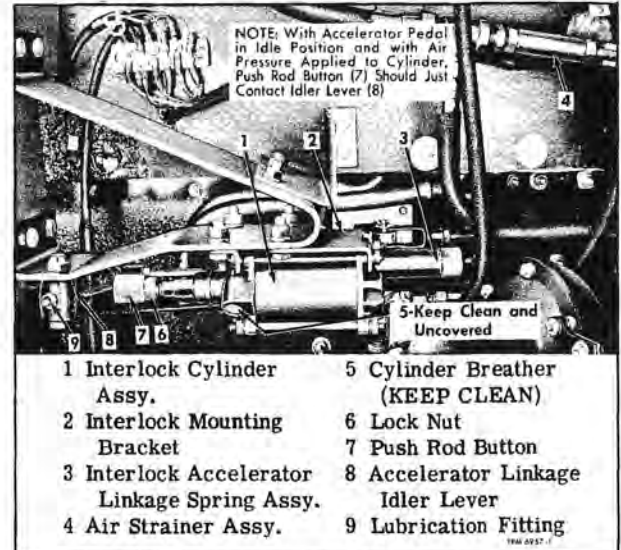

Figure 20—Accelerator Interlock Linkage
Interlock functions to prevent engine exceeding idling speed when rear doors are unlocked. Interlock air cylinder (fig. 20) is supplied with full reservoir air pressure through interlock magnet valve (fig. 14). A single magnet valve supplies air pressure to both brake and accelerator interlocks. Accelerator interlock air cylinder is mechanically connected to accelerator control rod when air pressure is applied to cylinder.
Linkage at front of coach is accessible from underneath coach (fig. 20). When door control valve is placed in any door unlocked or open position, air pressure is applied to the interlock air cylinder which in turn forces accelerator linkage to the idle position.
c. Button (7, fig. 20) just contacts accelerator idler lever (8, fig. 20).
If adjustment is necessary, loosen lock nut (6, fig. 20) and reposition push rod button (7, fig. 20). After making adjustment tighten lock nut firmly.